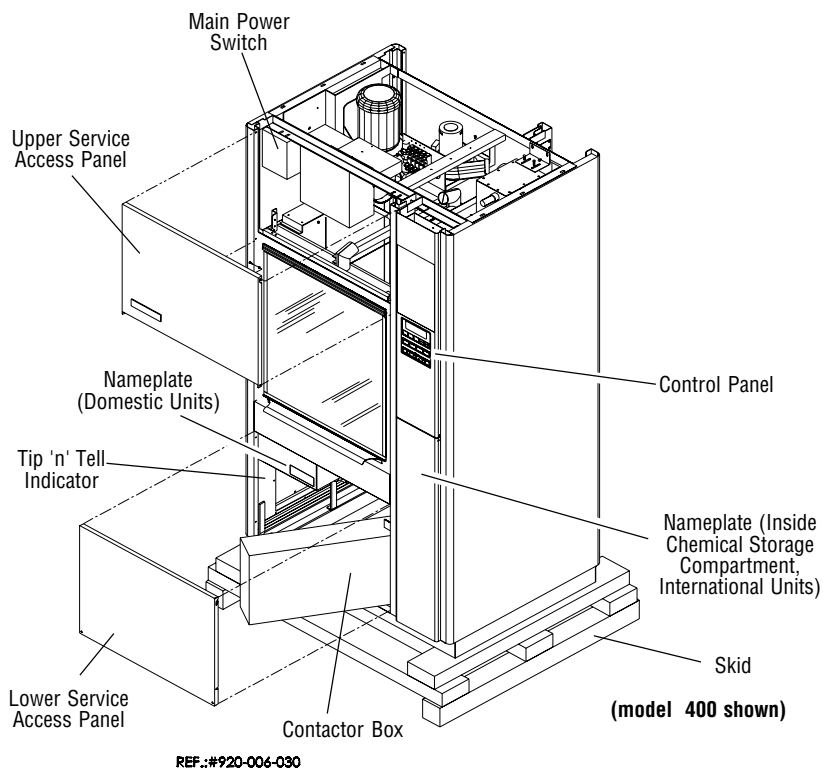

Figure 2-3.
10. Open lower service access door and check tip indicator, located inside lower service compartment (see Figures 2-3 and 2-4). Tip 'n' Tell indicator contains a blue compound at the bottom of the indicator. If unit has been tipped, residue from the blue compound will be found higher up in the indicator.